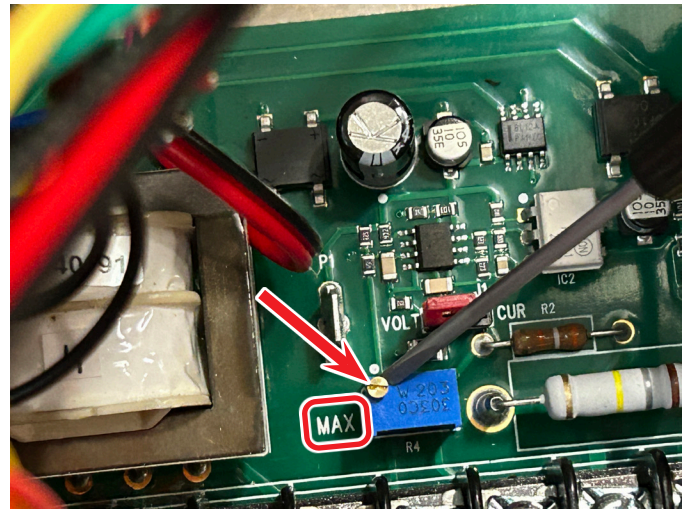

FIGURE 2—MAX adjustment screw on the isolator board.
6. On the isolator board, there is an adjustment screw for MAX voltage on the blue W203 component shown below in Figure 2. Turn the screw clockwise to increase the output voltage.